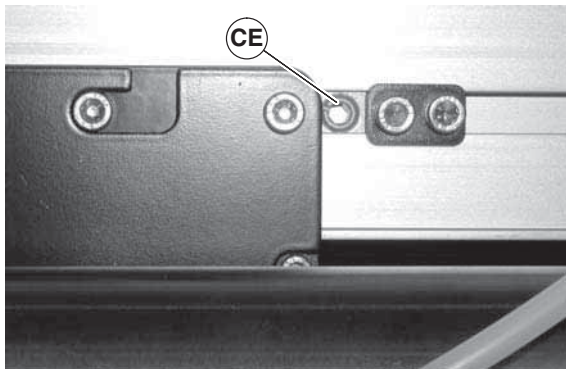

**Figure 51**
2. If necessary, adjust the tracking cam: loosen the center drive fastening screws (Figure 51, item CD) on the side of center drive to be tracked.
4. Tighten the center drive fastening screws (Figure 51, item CD) to 146 in-lbs (16.5 N-m).